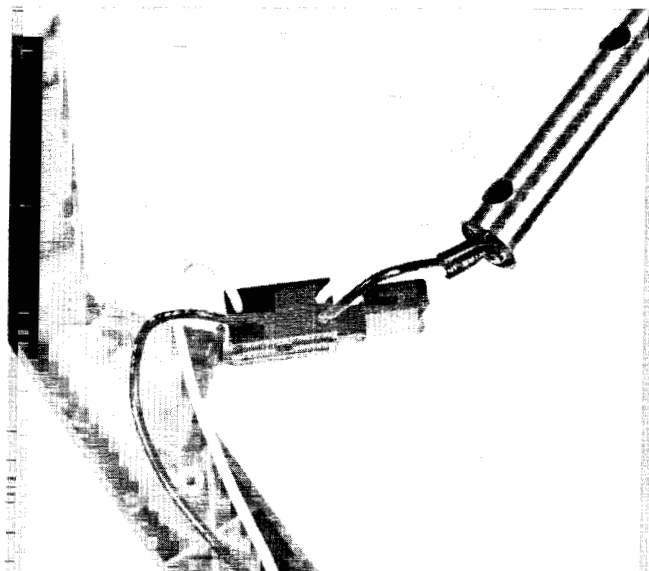

Figure 3.8
3.8 TEST SWITCH CONNECTIONS (fig. 3.8)